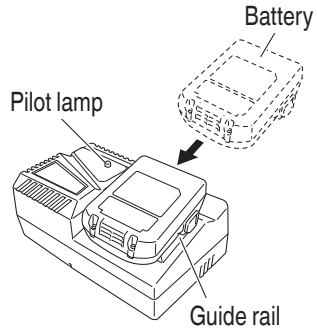

Fig. 8
2. Insert the battery to the battery charger. Firmly Insert the battery into the battery charger as shown in Fig. 8.